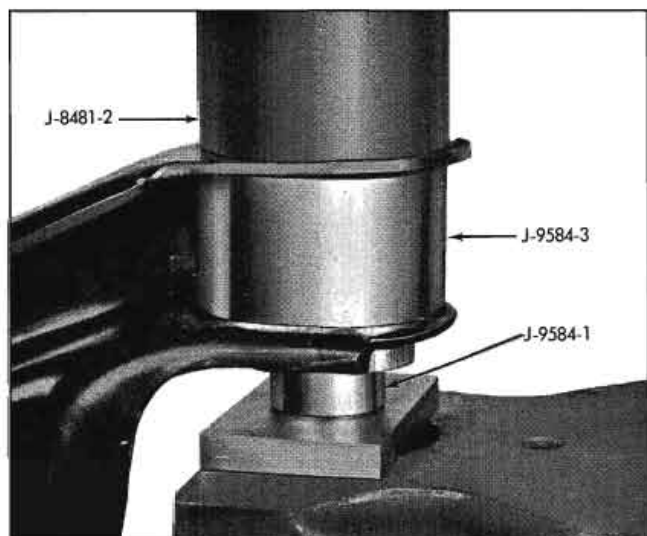

Fig. 3-24 Removing Bushing from Control Arm
2. Rest arm on remover J-9584-1 as shown in Fig. 3-24. Place spacer J-9584-3 around bushing, then with sleeve J-8481-2 between control arm and arbor press, press bushing from arm.